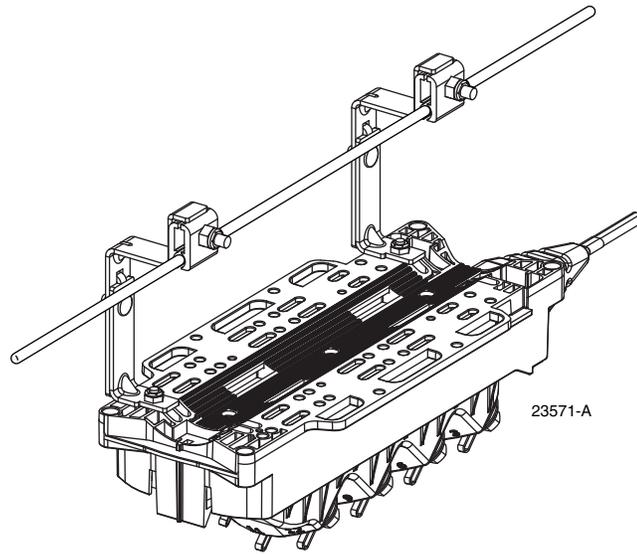

Figure 9. Typical Strand-Mount Installation
- **Strand-Mounting** (aerial) – A strand-mount bracket kit (MST-ACC-M02) is available for aerial mounting the MST from an overhead strand as shown in Figure 9. The brackets mount on the UMB and are then clamped to the strand. The MST snaps into the UMB.